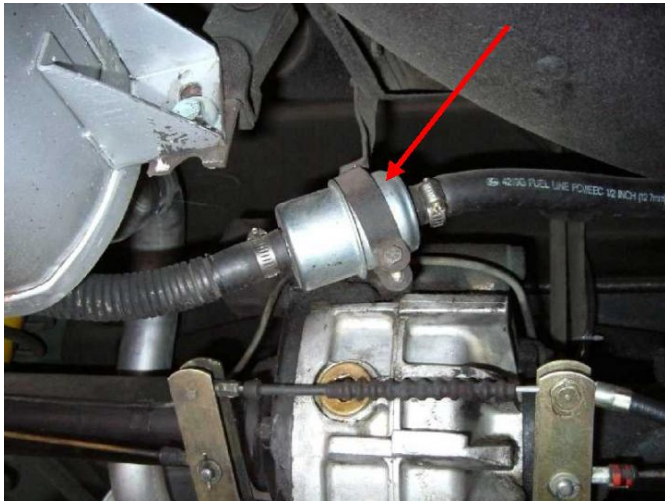

Fig 1. Rear Fuel Filter
1. Clogged fuel filter. Change the rear filter with the spare you always keep in the trunk. A clogged fuel filter probably will be slowly progressive, so you should be able to limp-in somewhere. See Fig 1.